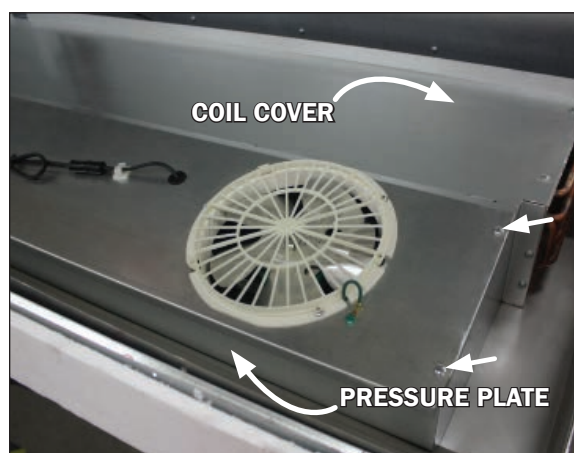
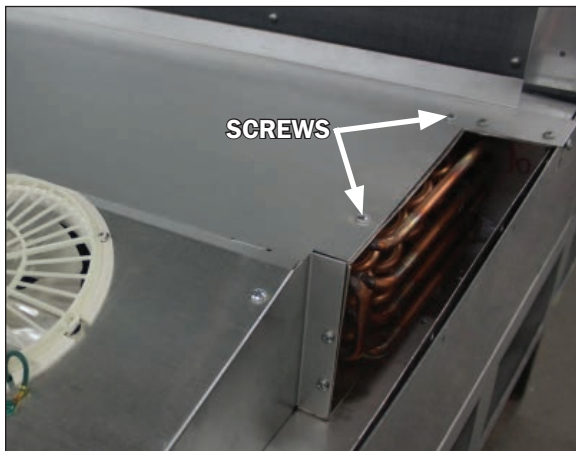

Fig. 13 Pressure plate, screw locations and coil cover (topside)
Fig. 16 Coil cover removal
It is important that you do not overload the food product display so that it impinges on the airflow pattern (Fig. 16). Overloading will cause malfunction and the loss of proper temperature levels.
2. To access the underside of the fans first remove the screws on the top ends and front sill of the pressure plate cover (Fig. 13). Lift the pressure plate by use of the
2. Remove the top two screws at both ends of the coil cover (Fig. 16), as well as the screws from the top ends and front sill of the pressure plate cover (Fig. 13). **Be sure to save the removed screws for reassembly.**